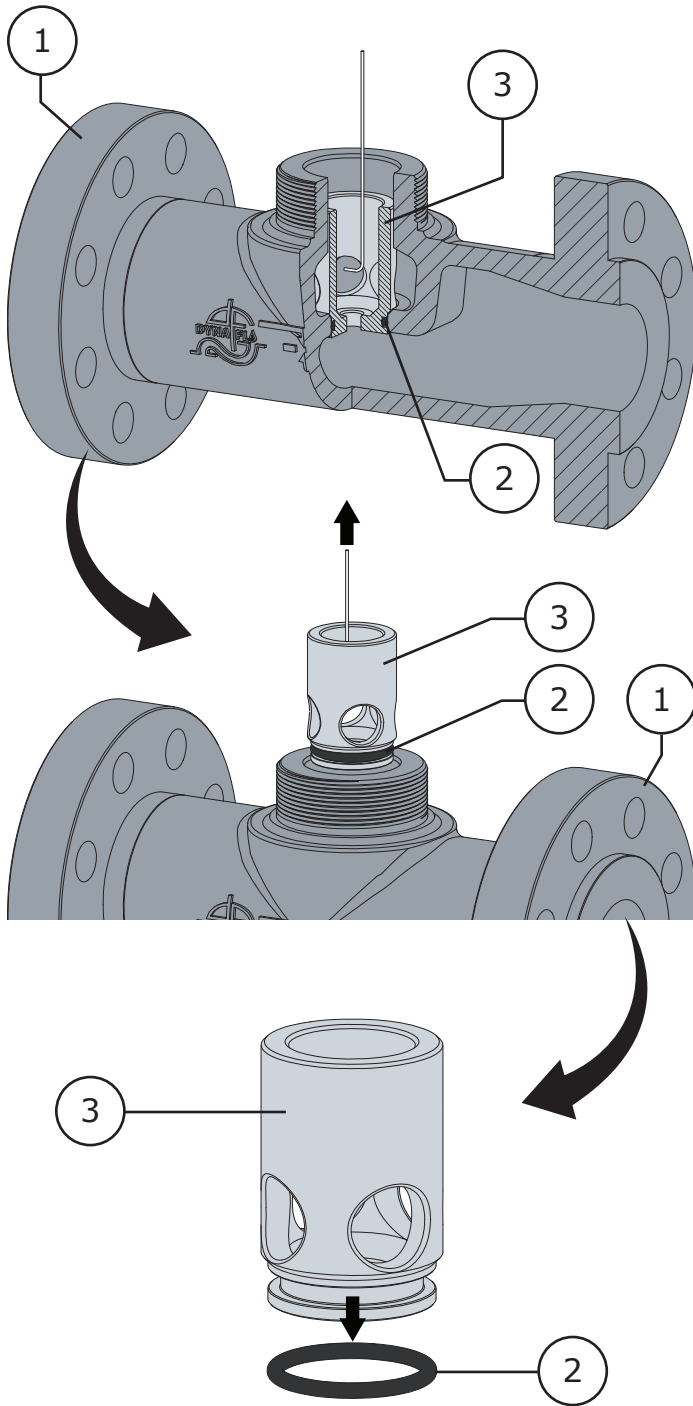
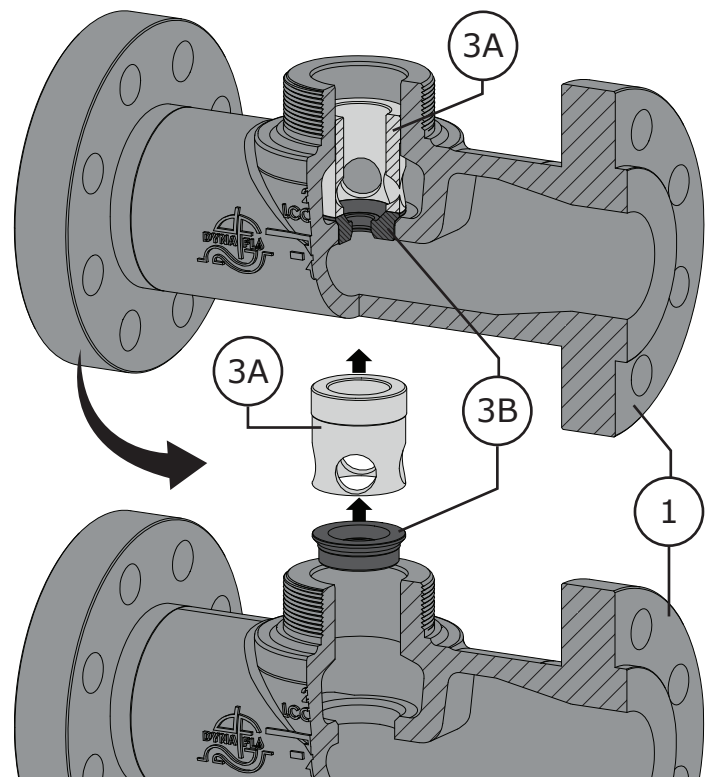

Figure 5 One-Piece Cage/Seat Ring Removal
Figure 6 Discontinued Two-Piece Cage/Seat Ring Removal
NOTE: For standard valve construction the cage and seat ring are one-piece (refer to Figure 5). Two-piece cage and seat ring designs were used in the past for optional trim materials but are considered one part (refer to Figure 6).
NOTE: Be very gentle when removing the cage/seat ring assembly using the cage windows and avoid damaging the cage. Refer to Figure 5.
- 2 Using a mechanic pick set, remove and replace the seat ring o-ring (Key 2). **NOTE:** When possible, used o-rings should be replaced. Refer to Figure 5.
- 1 Carefully remove the cage (Key 3A) as shown in Figure 6. The cage from a two-piece design is set on top of the seat ring (Key 3B) and easily removed.
- 2 If necessary use a mechanic pick set and remove the seat ring (Key 3B) as shown in Figure 6. **NOTE:** Seat rings from a two-piece design do not use an o-ring (Key 2) and are easily removed.